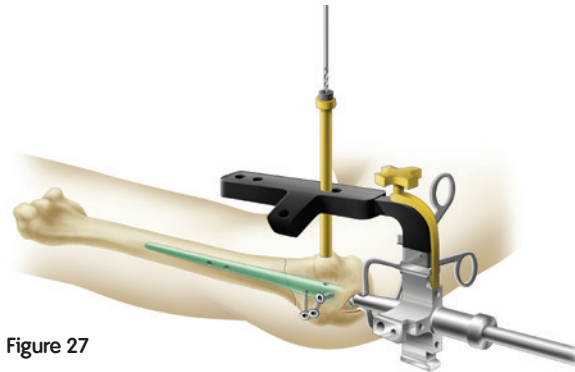

Figure 27
4. Insert the sleeve unit into the hole marked “Anterior” on the Proximal Drop (Figure 27).